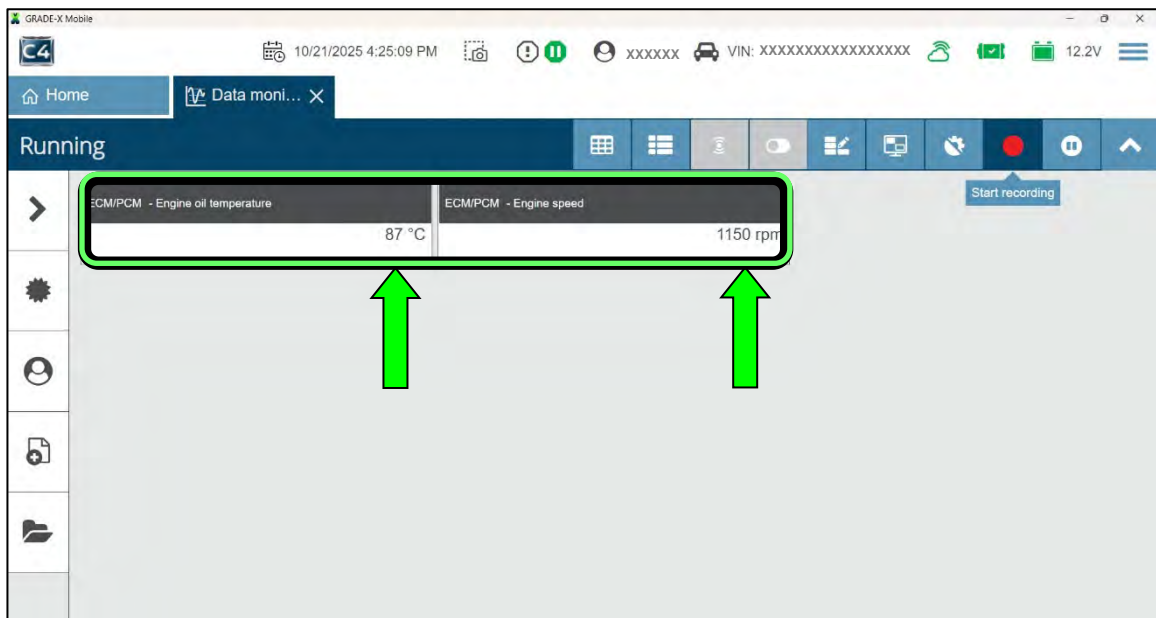

Figure 42
**HINT:** ECM data monitor is shown in Figure 42.